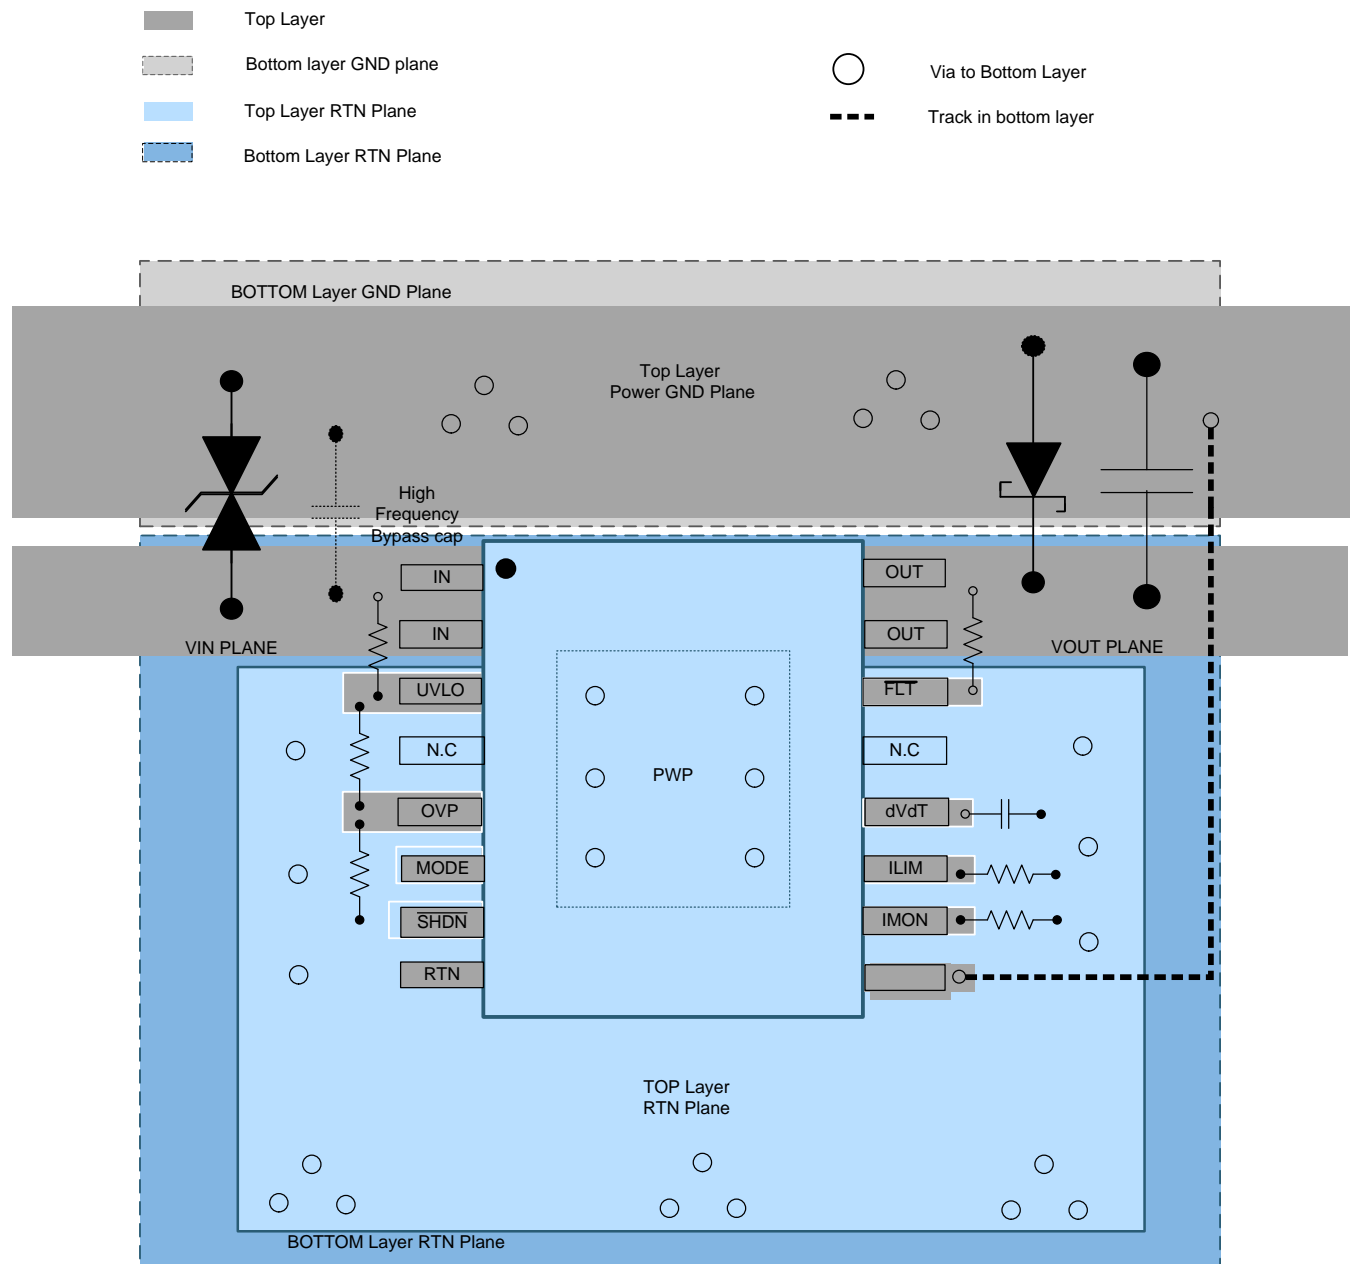

Figure 47. Typical PCB Layout Example With HTSSOP Package With a 2-Layer PCB
- The optimum placement of decoupling capacitor is closest to the IN and GND terminals of the device. Care must be taken to minimize the loop area formed by the bypass-capacitor connection, the IN terminal, and the GND terminal of the device. See Figure 47 for PCB layout example with HTSSOP package.